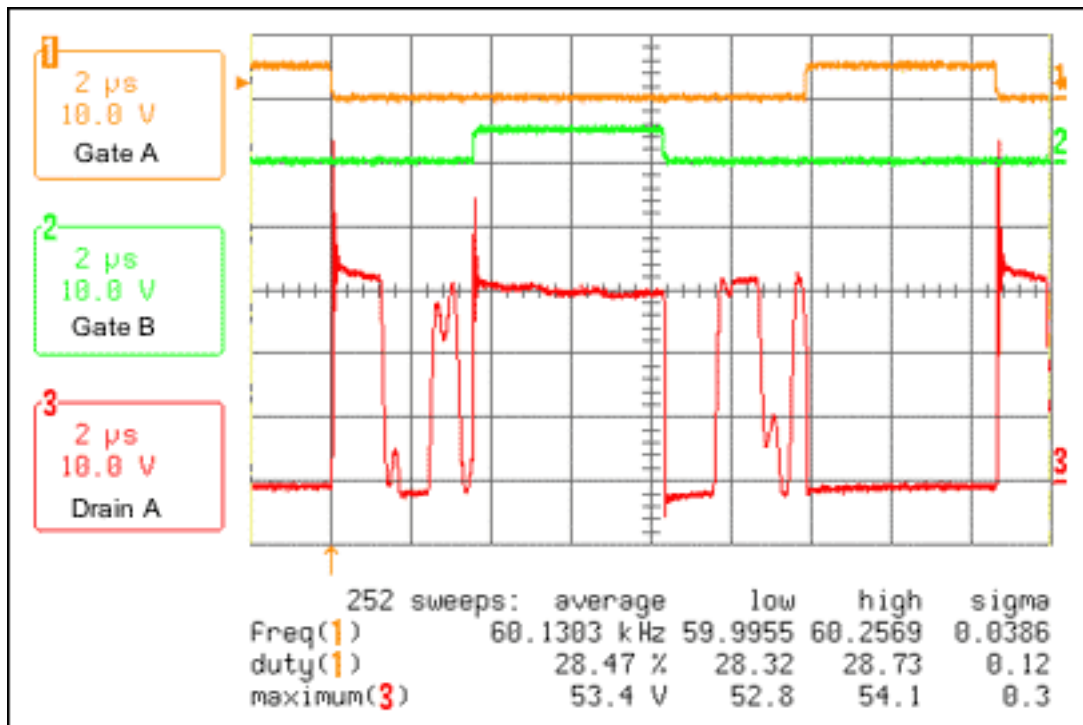
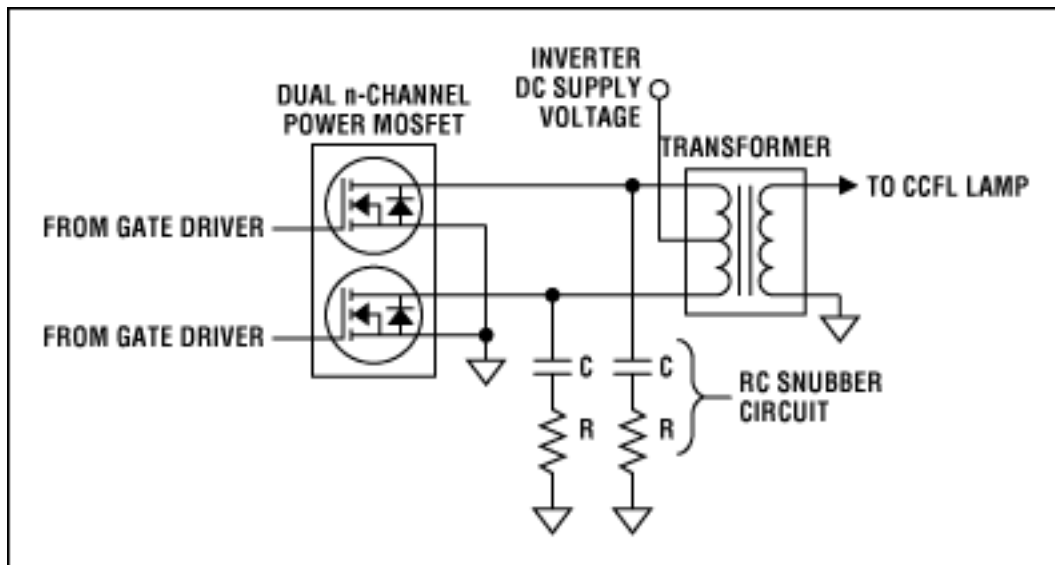

Figure 1. Drain voltage without snubber circuit.
Figure 2. Push-pull drain snubber circuit.
**Figure 1** details the typical gate drive and drain waveforms for push-pull drive scheme with a 15V DC supply. In a push-pull drive arrangement when the complimentary MOSFET is turned on, the drain voltage normally increases to twice the DC supply voltage (or 30V in this example). However, as shown in Figure 1, voltage spikes as high as 54V appear. Voltage spikes appear on the drain of the n-channel power MOSFET when the gate of the MOSFET is turned off and also when the gate of the complimentary MOSFET is turned on.
Suppressing the drain-voltage spikes can be accomplished with a simple RC network added to each drain, as shown in **Figure 2**. The proper values for the resistor (R) and capacitor (C) network can be determined from the following suppression procedure. An example that shows how to reduce the voltage spikes shown in Figure 1 is detailed after the procedure.
In this section, using the five-step procedure outlined previously, the proper values for the resistor (R) and capacitor (C) snubber circuit to reduce the Figure 1 voltage spikes are determined.